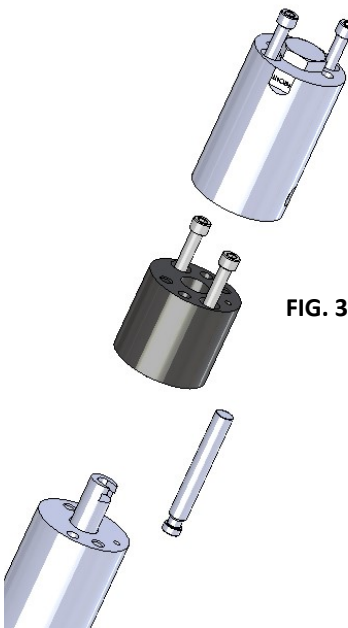

FIG. 3
2. REMOVE PISTON FROM NEW INLET BLOCK, LUBE PISTON WITH CLEAN GREASE OR OIL AND SLIP PISTON INTO THE SLOT. (FIG. 3)
3. REPLACE ORINGS ON THE BLACK PICKUP TUBE SPACER AND REINSTALL USING TWO NEW 1/4-28 X 2" SOCKET HEAD CAP SCREWS PROVIDED USING LOCTITE AND TORQUE TO 84 IN/LBS. (FIG. 3)
4. DOUBLE CHECK SEALING SURFACES AND VERIFY O-RINGS ARE IN PLACE ON THE NEW INLET BLOCK. INSTALL NEW INLET BLOCK USING TWO NEW 1/4-28 X 3-1/2" SOCKET HEAD CAP SCREWS. PUT LOCTITE ON THE THREADS AND TORQUE TO 84 IN/LBS OR 7 FT/LBS. (FIG. 3)